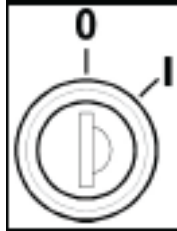

Fig 21
- Insert the key in the key switch (Fig. 21).